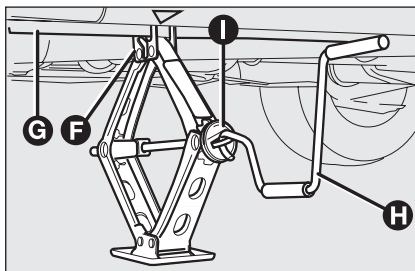

fig. 6
- place the jack near the wheel to be changed in line with mark ▼ on the sidemember **fig. 6**;
- fit handle **H-fig. 6** to the jack device **I** and raise the car until the wheel is a few inches off the ground. When turning the jack handle make sure that it can be used easily and take care not to scrape your hand against the ground. The moving parts of the jack (screws and joints) may also cause injury if touched. Clean off any grease;